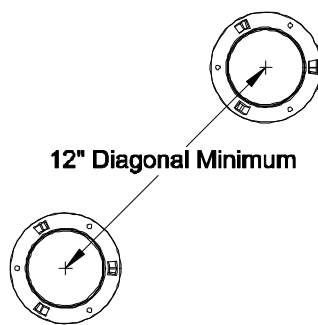

Figure 2.2
5. The second hole location must be spaced a minimum of 12" diagonally from the first hole location. Mark this location with a pencil. (See Figure 2.2)